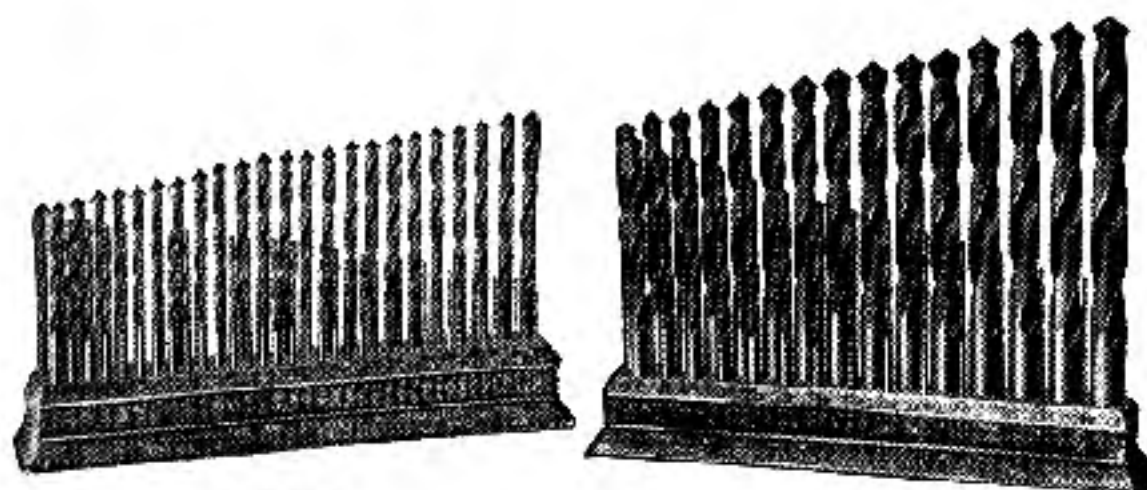

Fig. 8
**Drill Sets (Twist)**—Drills come in different sizes and are classified as number drills, letter drills, and fractional drills. It is well to buy a full set of them to begin with. Number drills come in sets from 1 to 80; letter drills come in sets from A to Z; and the fractional-size drills come from  $\frac{1}{16}$  to  $\frac{1}{2}$  inch in sixty-fourths. If you intend to do much work, the sets of high-speed drills are best. After finding what drills you use most, secure one or two extra ones of this number, letter, or fractional size, so that if one is broken your work will not be delayed. Figures 8 and 9 illustrate fractional and number sets.